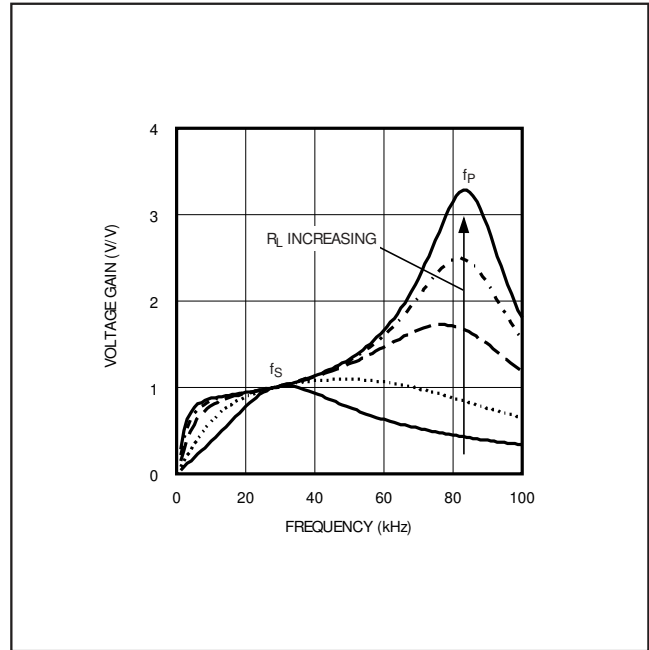

Figure 5. Frequency Response of the Resonant Tank
Figure 5 shows the frequency response of the resonant tank's voltage gain under different load conditions. The primary series capacitor is 1µF, the secondary parallel capacitor is 15pF, the transformer turns ratio is 1:93, and the secondary leakage inductance is 260mH. Notice that there are two peaks,  $f_S$  and  $f_P$ , in the frequency response. The first peak,  $f_S$ , is the series resonant peak determined by the secondary leakage inductance (L) and the series capacitor reflected to the secondary ( $C'S$ ):